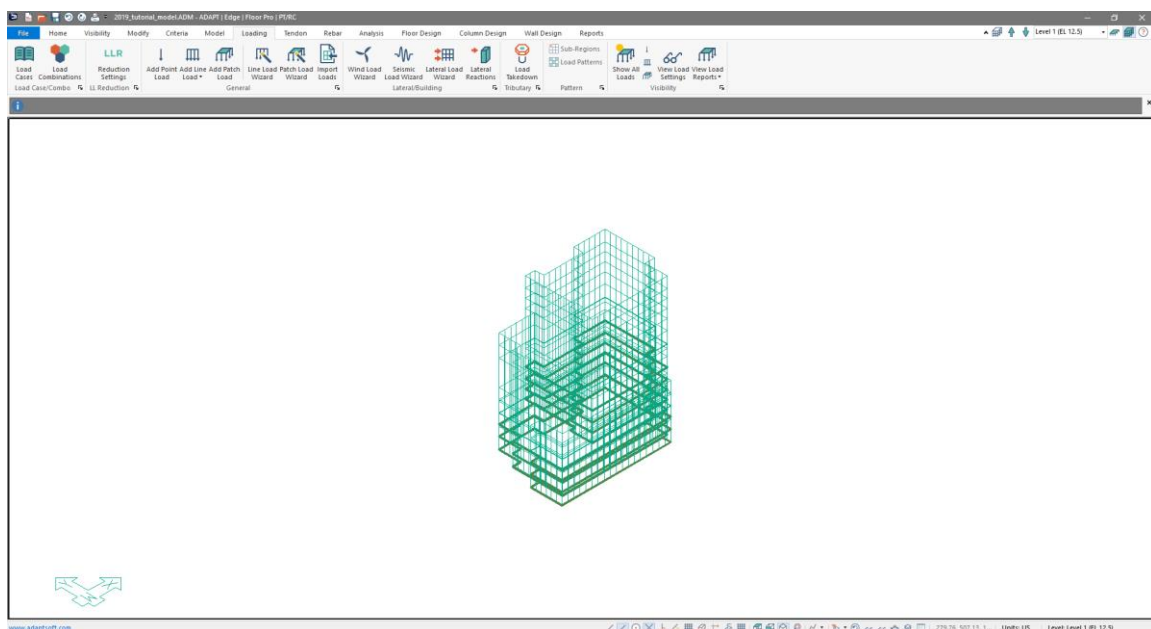

Figure 7-21
- Click on the *Top-Front-Right View*  icon in the **Bottom Quick Access Toolbar**. This will bring you to the view of the model shown in **FIGURE 7-21**.